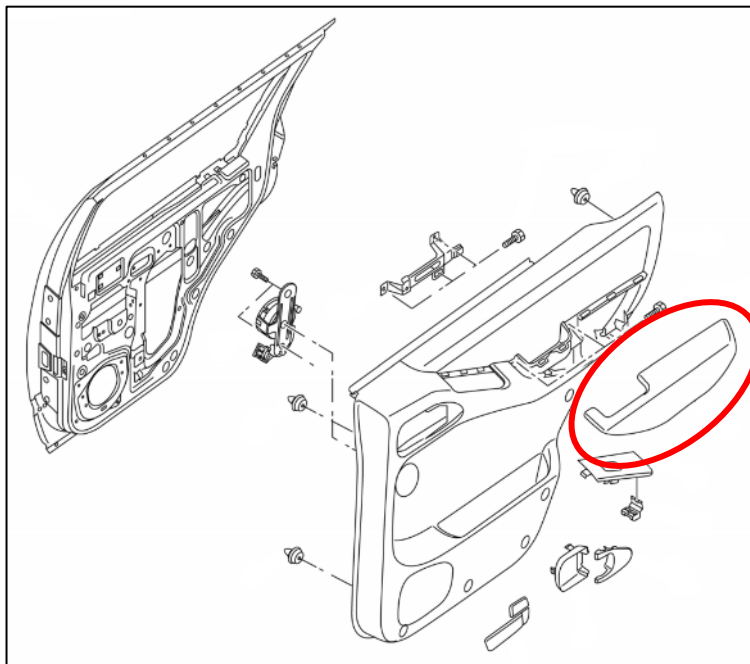

Figure 83
3. Remove the Trim Piece on the Arm Rest with a Trim Removal tool. *Figure 83.*